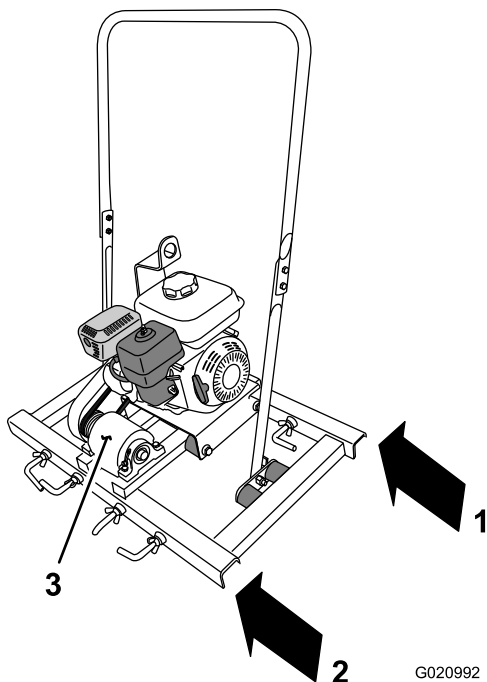
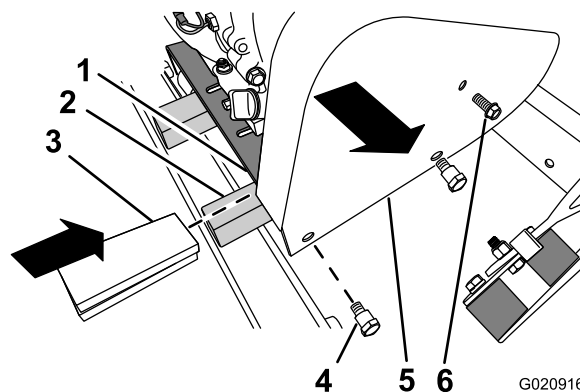
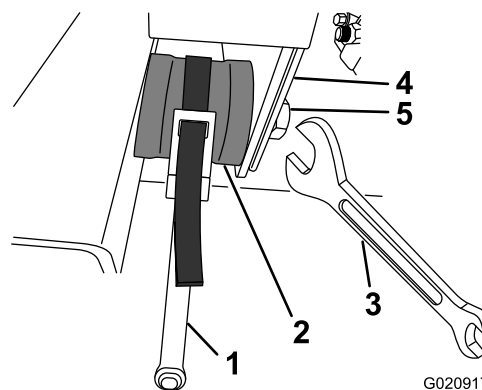
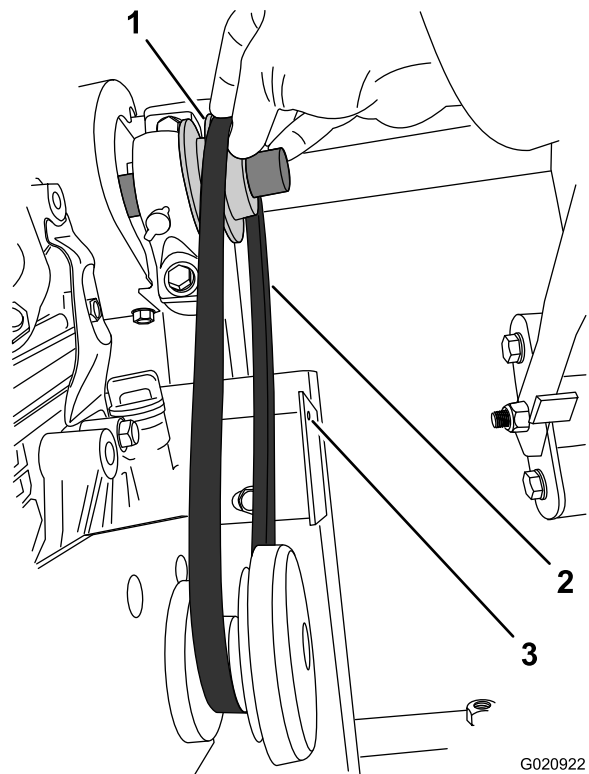

Figure 33
Figure 34
Figure 35
Figure 36
1. At the back of the machine, locate the right-cross channel (Figure 33 and Figure 34).
2. Insert a 32 to 38 mm (1-1/4 to 1-1/2 inch) spacer between the right-cross channel and the engine plate (Figure 34).
3. Remove the bolt (1/4 inch) from the belt guard (Figure 34).
4. Remove the 2 shoulder bolts (3/8 inch) from the belt guard, and remove the belt guard (Figure 34).
Note: Use a strap wrench to keep the isolator from rotating when removing the 3/8 inch bolt (Figure 35).
3. Align the (1/4 inch) hole in the belt guard with the hole in the belt guard bracket (Figure 34 and Figure 36).
4. Thread the bolt (1/4 inch) through the belt guard and into the belt-guard bracket (Figure 34 and Figure 36).
5. Align the holes (3/8 inch) in the belt guard with the threads in the isolators (Figure 34 and Figure 35).
6. Secure belt guard to the isolators with the 2 shoulder bolts (3/8 inch) (Figure 34).
Note: Use a strap wrench keep the isolator from rotating when tightening the 3/8 inch bolt (Figure 35).
8. Remove the spacers that are between the right-cross channel and the engine plate (Figure 34).
2. Lift the belt up and over the shoulder of the eccentric pulley (Figure 36).
2. Pull the belt toward the eccentric pulley (Figure 36).
3. Slip the belt over the shoulder of the eccentric pulley (Figure 36).